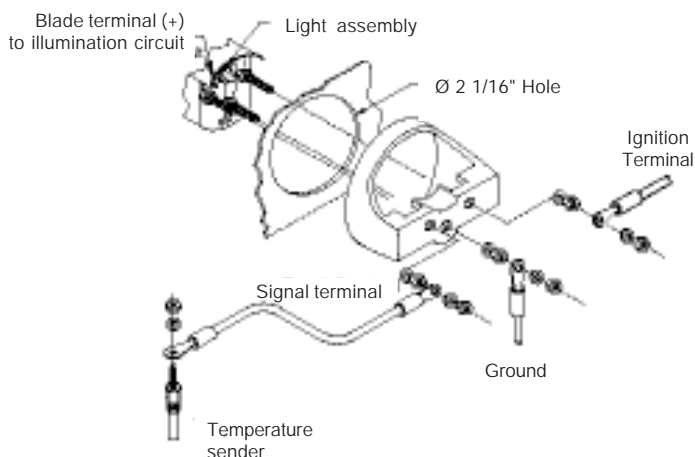

Figure 1
**Gauge pod:** Gauge will press-fit into 2 1/16" gauge pod and the mounting bracket will not be used. Position gauge in mounting hole. Install mounting bracket, nuts and lock washers in position. (see Fig. 1) Install one brass flat washer, one lock washer and one nut on each stud. Ro-
STEP 4. Run a length of wire from the temperature gauge to the sender unit using the wire supplied with the kit. Bare 1/4" of the end of the wire supplied at the sender unit. Install an eyelet terminal supplied with the kit on the end of the wire and crimp it tightly with a pair of pliers. Install the terminal onto the sender unit stud. Install nut on to the stud and tighten securely. Be sure the terminal does not touch the body of the sender. Tape the wire in position so it cannot touch any hot engine components. Be sure that the base of the sending unit is properly grounded. A sending unit installed in a rubber cooler line is not properly grounded. Improper grounding will cause a false reading. Install another eyelet terminal on the end of the temperature gauge wire. Remove the nut and lock washer from the left-hand stud on the temperature gauge (see Figure 1). Install the terminal onto the stud and install lock washer and nut. Tighten nut snugly. DO NOT OVER-TIGHTEN AS THIS COULD DISTORT BRACKET OR DAMAGE GAUGE.
STEP 5. Run a length of wire from the temperature gauge to the ignition switch or fuse block using the wire supplied with the kit. Bare 1/4" of the end of the wire at the temperature gauge. Install an eyelet terminal on the end of the wire and crimp it tightly with a pair of pliers. Remove the nut and lock washer from the right-hand stud on the temperature gauge (see Figure 1). Install the terminal onto
STEP 7. Run a length of wire from the temperature gauge to the dashboard instrument light wires or terminal board. Bare 1/4" of the end of wire at the temperature gauge. Install the female spade connector furnished and crimp tightly with a pair of pliers. Slip connector onto gauge spade terminal (see Figure 1). Tape or fasten all wires up out of the way from heat or any moving parts to prevent damage.